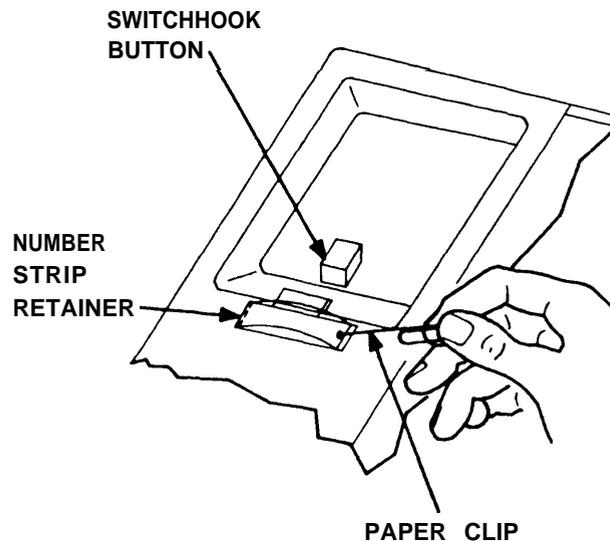

Figure 21
- ❑ 1. Pry off the clear plastic number strip retainer (Figure 21) under the handset, using a straightened paper clip in the small hole.